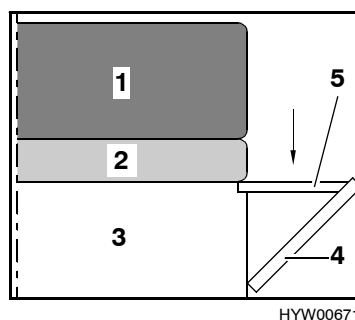

Fig. 54 After conversion
- Allow the bedding box extension (Fig. 54,5) to engage and, if necessary, lift the seat cushion.